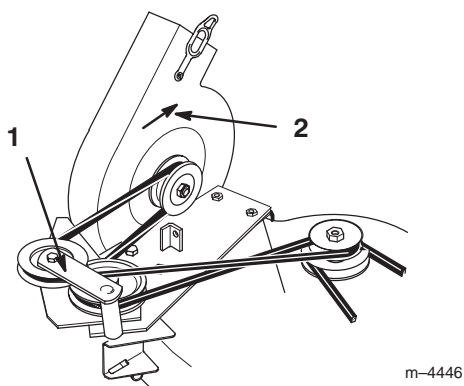

Figure 15
2. With the blower in the open position, install the blower drive belt between the idler pulley bracket and the pulley (Fig. 15).
3. Loop the belt around the remaining pulleys (Fig. 15).
4. Install the other end of the belt over the blower drive pulley on the spindle (Fig. 15).
5. Check the direction of blower rotation (Fig. 15).